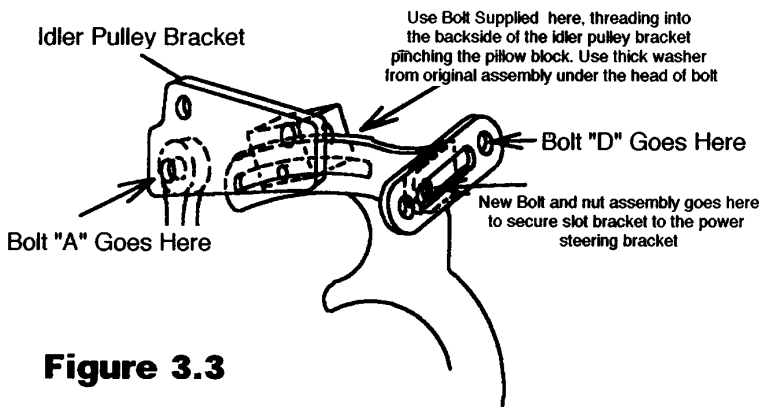

Figure 3.3
3.3 Secure the idler pulleys firmly to the flat bracket. Proceed to install the idler pulley assembly onto the car per the procedure practiced during the trial fitting. The final assembly (minus the pulleys) should look like figure 3.3.